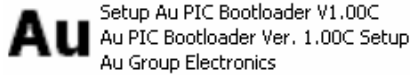

Figure C-1 - Setup Au PIC Boot-loader V1.00A icon
1. Double click icon of the "Setup Au PIC Boot-loader V1.00B" to start installing Au PIC Boot-loader (Figure C-1).